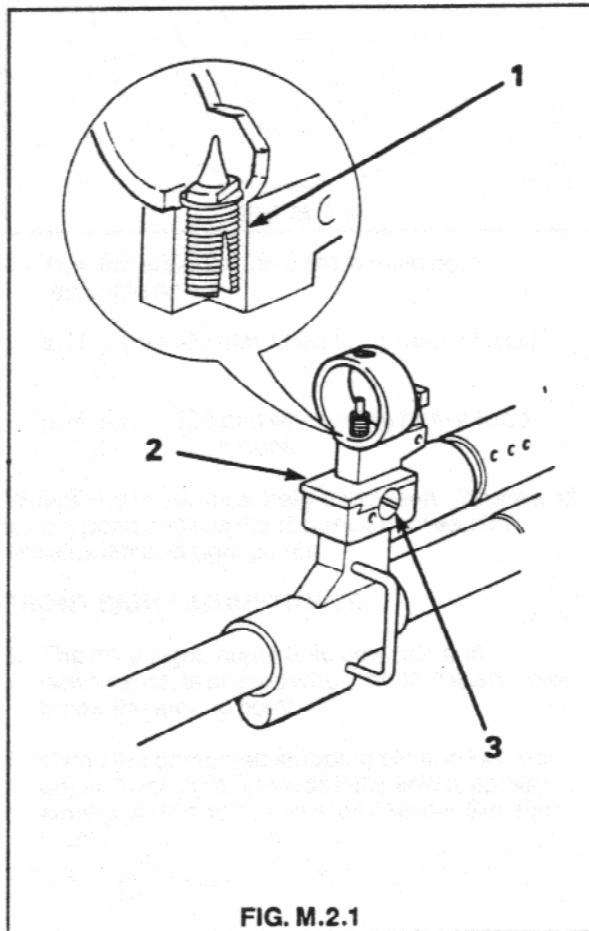

FIG. M.2.1
1. Zeroing the sights is an adjustment whereby the sight axis is aligned with barrel axis for a range of 250 metres. The front sight can be adjusted horizontally and vertically using the combined stripping pin and key tool. The sights can also be adjusted using a special Eliraz Optical Sight. The front sight adjusting points are illustrated in Fig. M.2.1.